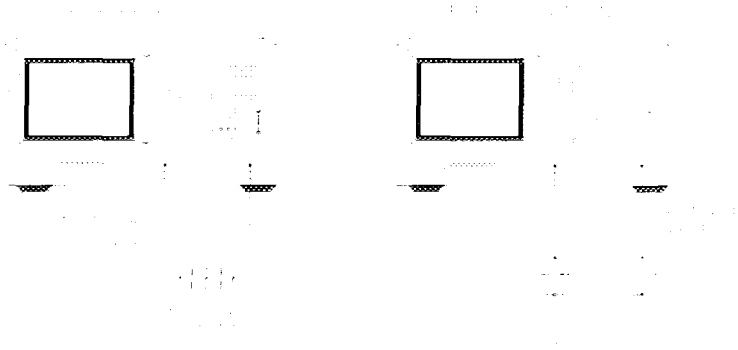

Figure 13-2. Standard Connections for a Response and Isolation Error-Correction for Transmission Measurements
- a** Connect impedance-matched loads to PORT 1 and PORT 2, as shown in Figure 13-2. Include the adapters that you would include for your device measurement.